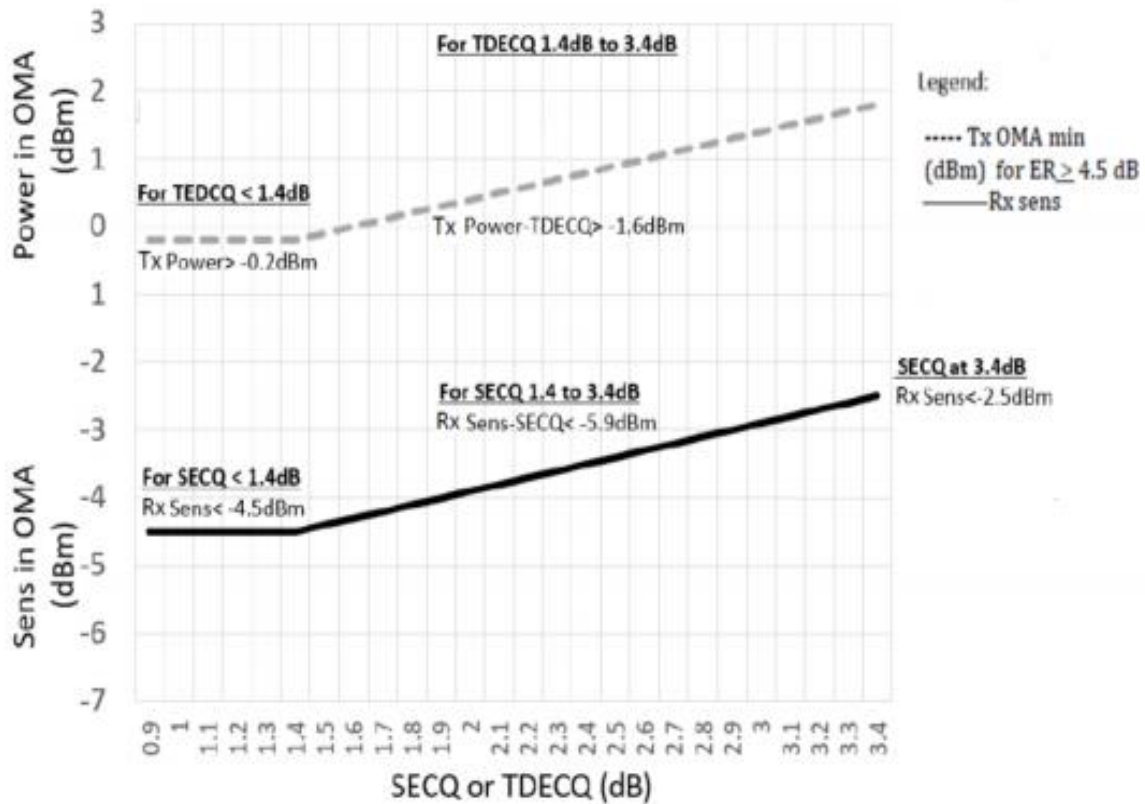

Figure 4. Illustration of Receiver Sensitivity Mask for 400G-DR4+
6. Receiver sensitivity (OMA_{outer}), each lane (max) is informative and is defined for a transmitter with a value of SECQ up to 3.4 dB. It should meet Equation (1), which is illustrated in Figure 4.